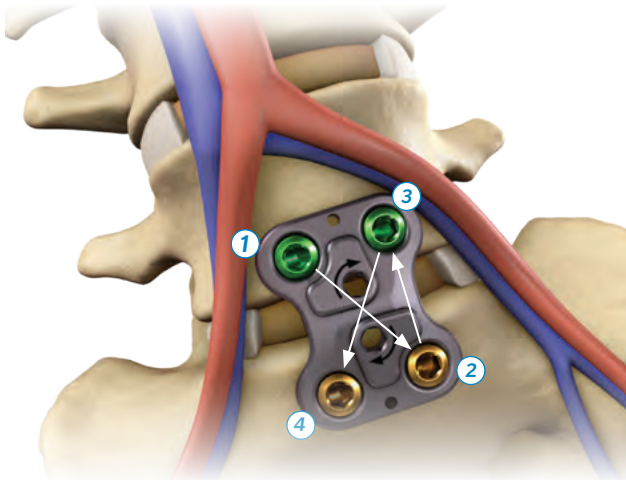

Figure 26:
- Once all four screws have been provisionally inserted, the screws should be fully tightened under direct visualization. It is recommended that screws be fully tightened in a star pattern to ensure the lumbar or sacral plate seats evenly against the vertebral bodies (Figure 26).